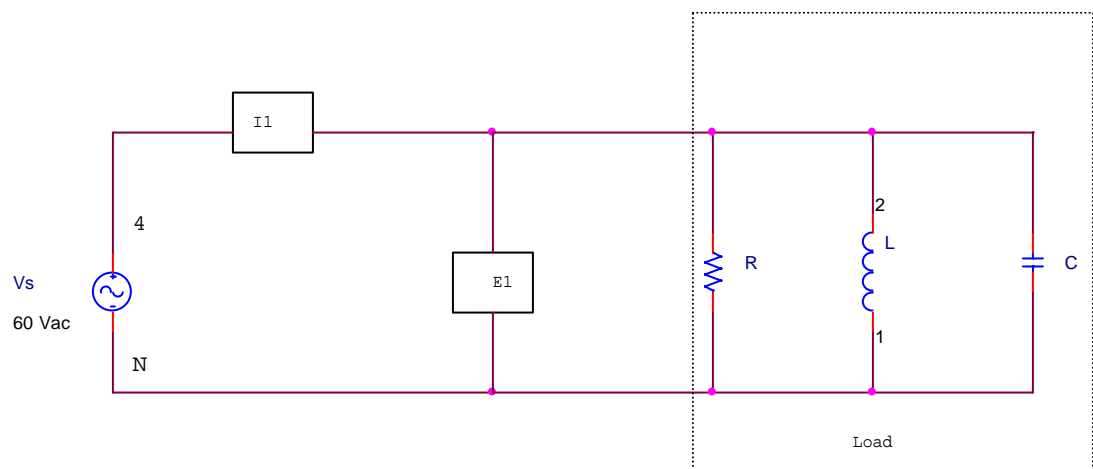

Figure 1.1 Parallel RLC circuit configuration
Utilize the circuit element values given in Figure 1.1 and Table 1.1. For all cases shown in Table 1.1, determine the theoretical values for I_1 , E_1 , P , S , Q , and $p.f.$ Show all of your work and summarize your results in a table.
3. Construct the circuit of Figure 1.1. Leave the capacitor out of the circuit at this point. It will be installed at a later step. I_1 and E_1 refer to the DAI metering connections.
12. Rewire the circuit of Figure 1.1 to include the capacitor. Repeat steps 7 through 9 to complete Table 1.1.